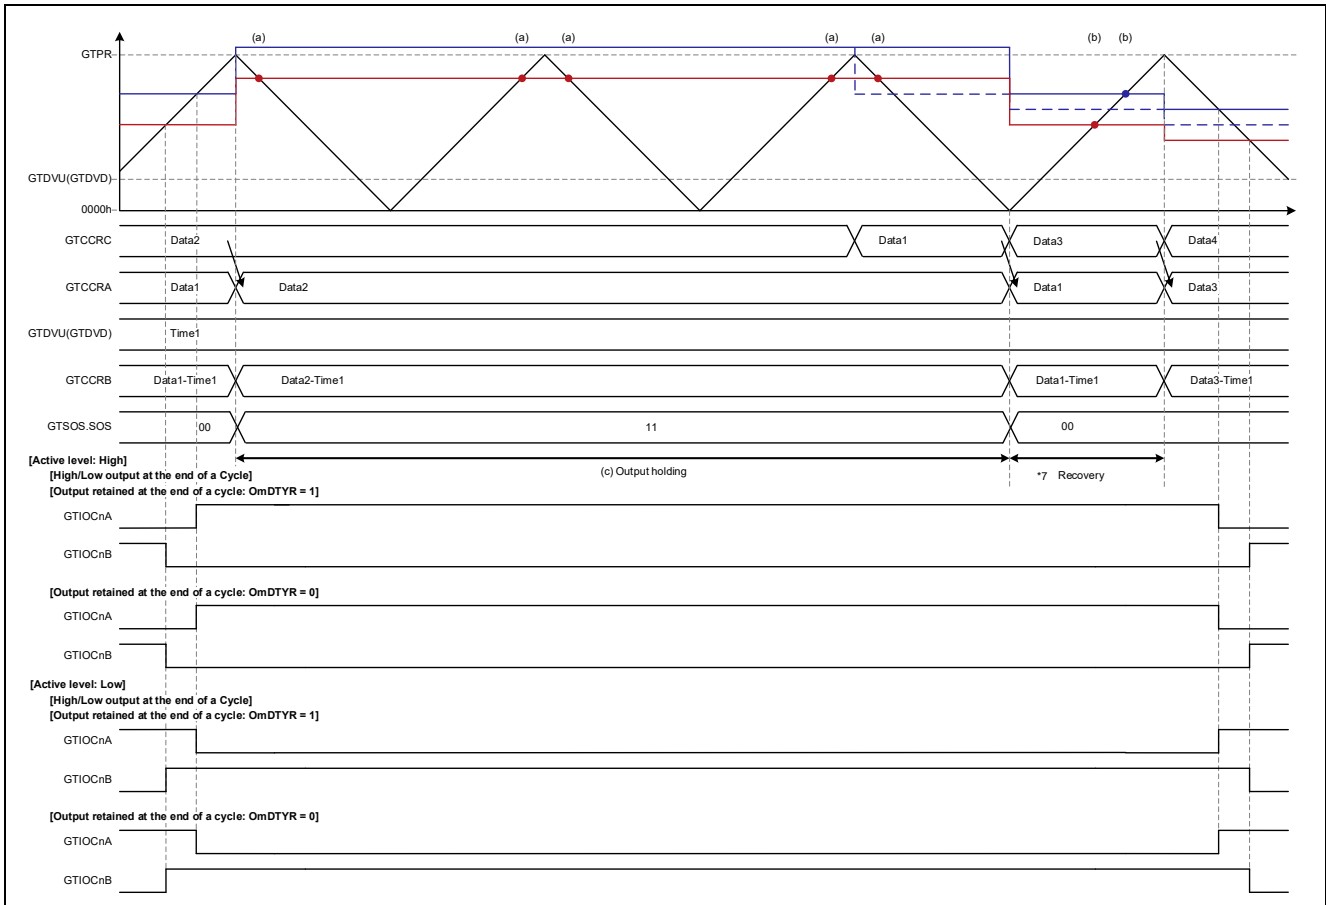

Figure 1.103 Triangle-Wave PWM Mode 2 Operation Example
- Operation Example 4: Figure 1.103 Triangle-Wave PWM Mode 2, Abnormal Value (Transfer at Crest)/Normal Value (Transfer at Trough), caution 7
Figure 1.103 shows an operation example of transfer of a value exceeding GTPR to GTCCRA via buffer transfer at crest and return via buffer transfer at trough of a normal value in triangle-wave PWM mode 2.